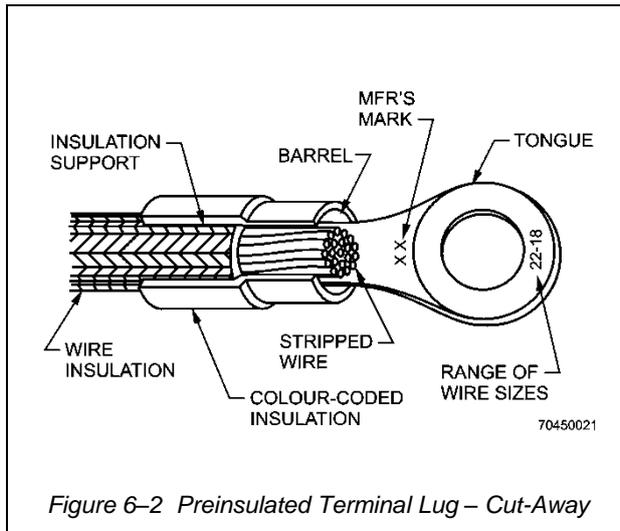

Figure 6-2 Preinsulated Terminal Lug – Cut-Away
8. Small copper wires (sizes No. 26 thru No. 10) are terminated with solderless pre-insulated straight copper terminal lugs conforming to SAE AS 7928. (See Annex A, Table 6-A-1.) As shown in Figure 6-2, the insulation is part of the terminal lug and extends beyond its barrel, so that it will cover a portion of the wire insulation; this makes the use of an insulation sleeve unnecessary. In addition, pre-insulated terminal lugs have an insulation support (a metal reinforcing sleeve) beneath the insulation for extra